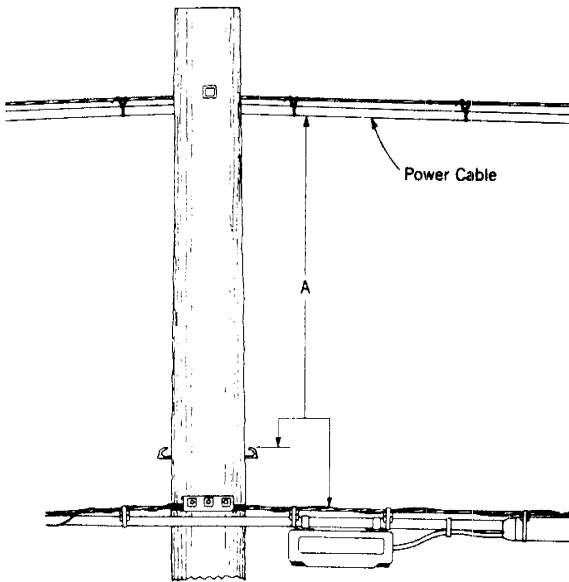

Fig. 14
- (c) Insulated conductors lashed to or spiraled around a grounded messenger ..... 40 in. } "A" on Fig. 14